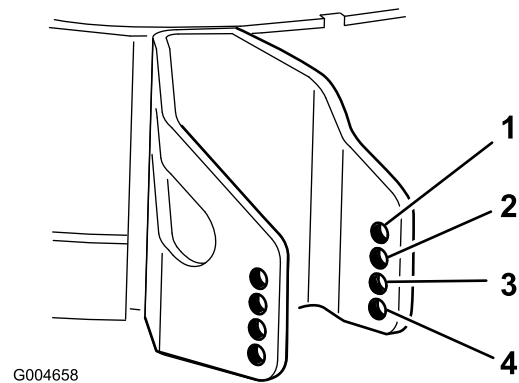

Figure 26
- Select a hole so the anti-scalp roller is positioned to the nearest corresponding height-of-cut desired (Figure 26).